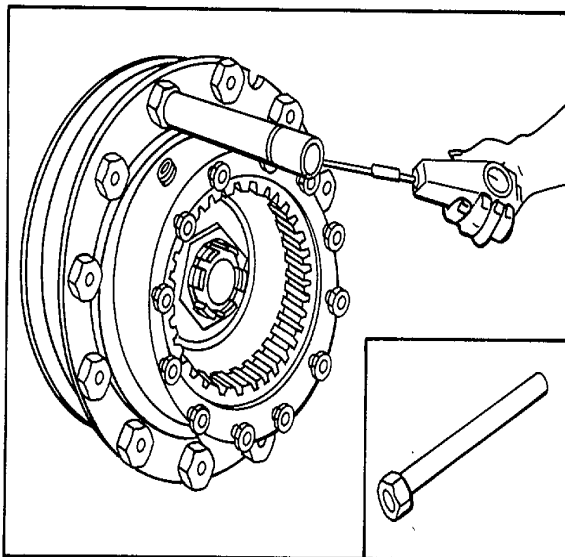

Figure 8.
4. If it is not convenient to remove the wheels of the vehicle, check the wheel bearing preload torque as shown above (refer to Fig. 8). The extension (see inset) permits a reading to be taken without interference from the tire.
For Example: Assume the distance from the center of the wheel to the center of the extension is 9 inches and the reading on the pound scale is 7 pounds (refer to Fig. 8 and 9). Multiplying 9 inches by 7 pounds, we get 63-pound inches. Since our preload specifications are listed in pound feet (lb ft), we simply divide the 63-pound inches by 12 and arrive at a reading of 5.25-pound feet.